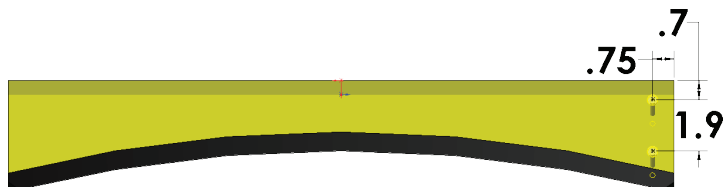

Fig. 29
Step 6. Click **Smart Dimension**  (S) on the Sketch toolbar.
Step 7. Dimension as shown in Fig. 29.